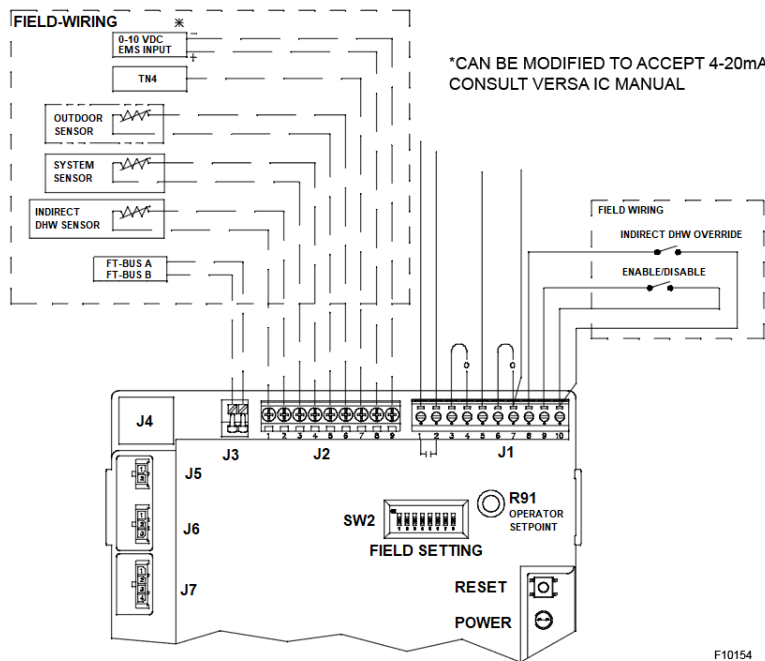

Figure 20. XPak FT Single Boiler Control
Connect the Enable/Disable terminals to the PIM. See Figure 20. Alternately, any dry contact closure (including a remote thermostat) across these terminals will enable the XPak FT unit to run. Caution should be used to ensure neither of the terminals becomes connected to ground.
2. To enable this remote control function, set dip switch 5 to the UP position on the PIM. Dip switch 5 Toggles between an EMS (UP) signal or a demand signal from the VERSA (DOWN). Dip switch 2 on the PIM toggles between a Direct Drive (UP) input and a Target Temperature (DOWN) setpoint.
4. Connect an Energy Management system or other auxiliary control signal to the terminals marked 0-10V (+/-) on the PIM. See Figure 20 on page 24. Caution should be used to ensure that the +0-10V connection does not create a short to ground.
3. Connect the system supply sensor to terminals 3 and 4 on the J2 connector located on the Master PIM. See Figure 20 on page 24 .
4. Connect the Outdoor air sensor (if used) to terminals 5 and 6 on the J2 connector located on the Master PIM. See Figure 20 on page 24.
5. Connect the Enable/Disable wiring to terminals 9 and 10 on the J1 connector located on the Master PIM. See Figure 20 on page 24. This connection must be provided through dry contacts closure.